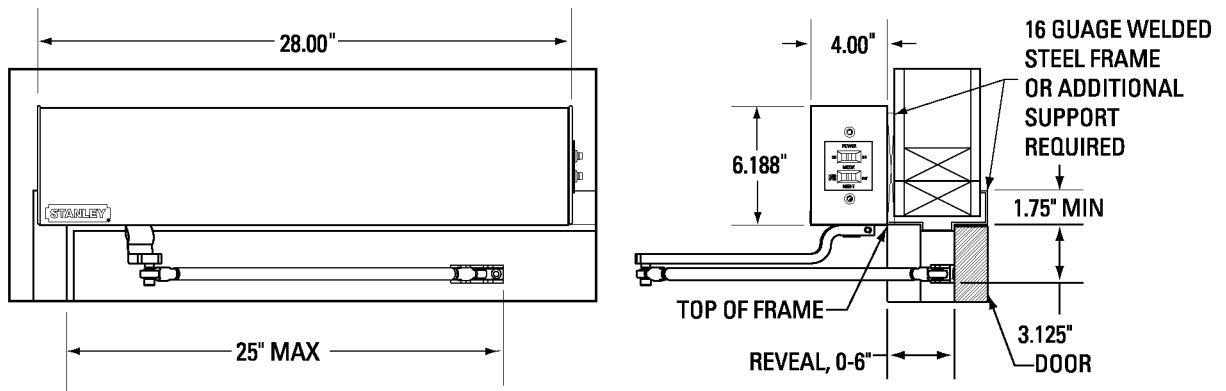

Fig. 5
6. The frame must be made of 16 gauge welded steel or better; or the mounting surface must be masonry; or additional support must be provided behind the operator (see Figs 5 and 6).